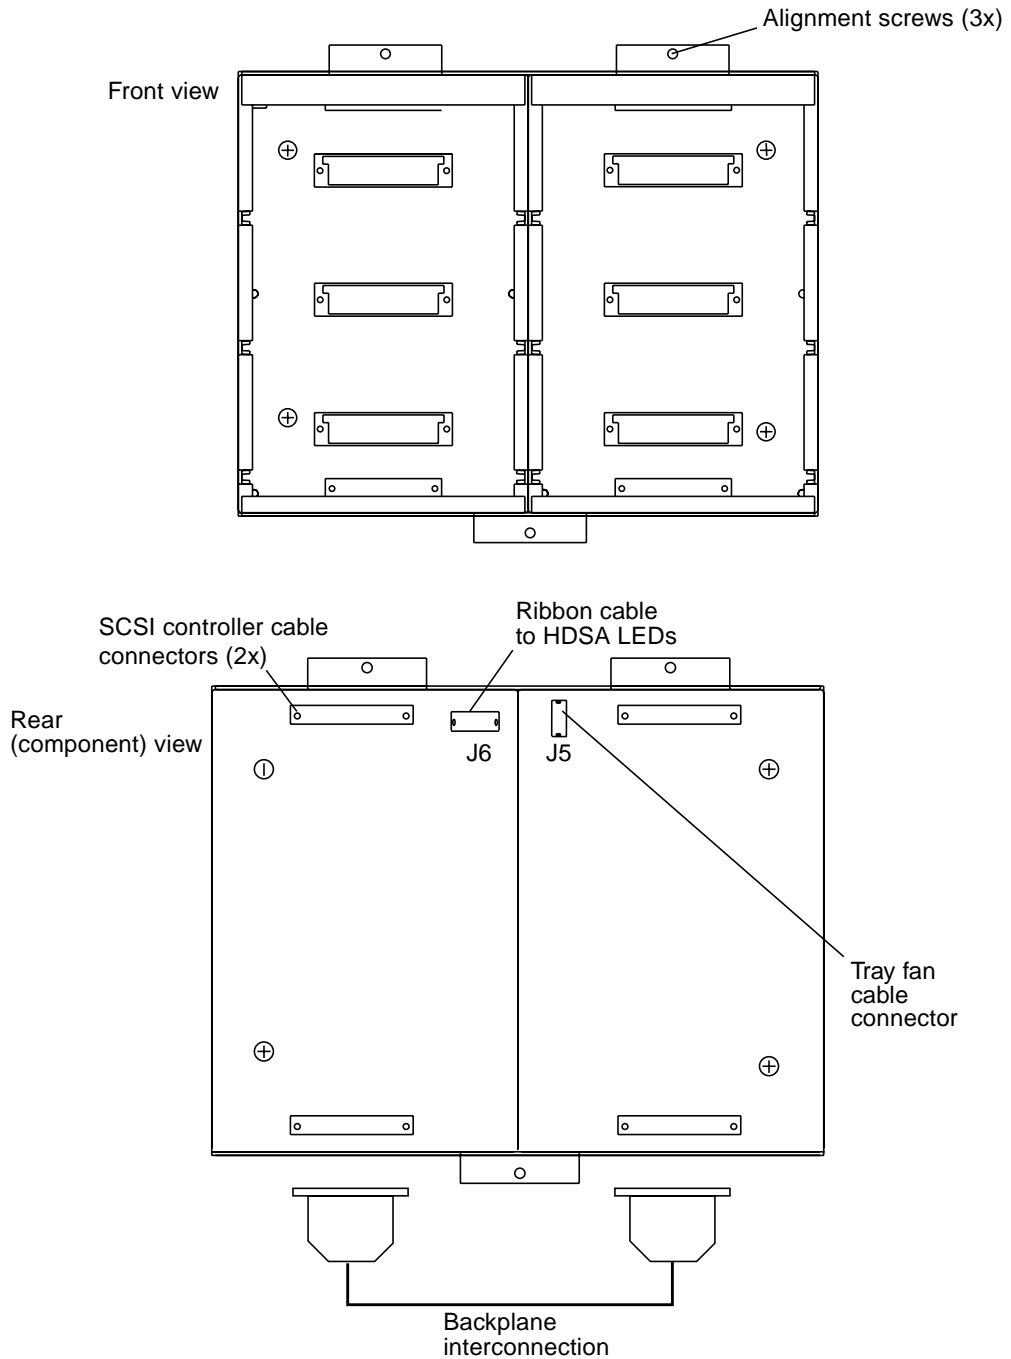

FIGURE 6-37 Disk Drive Array Chassis Front and Component Views
3. With the retaining plates removed, note the cables at the top and bottom of the backplane. See FIGURE 6-37. Remove, in order:
5. Remove the alignment screws. See FIGURE 6-37.
2. Replace the alignment screws, but do not tighten them. See FIGURE 6-37.
4. Remove the cable on connector J5 at the front or rear disk drive array backplane, depending on which fan is being replaced. Front fan cables are connected to the front backplane and rear fan cables are connected to the rear backplane. See FIGURE 6-37.
2. Replace the cable on connector J5 at the front or rear disk drive array backplane. Cable tie as needed. See FIGURE 6-37.